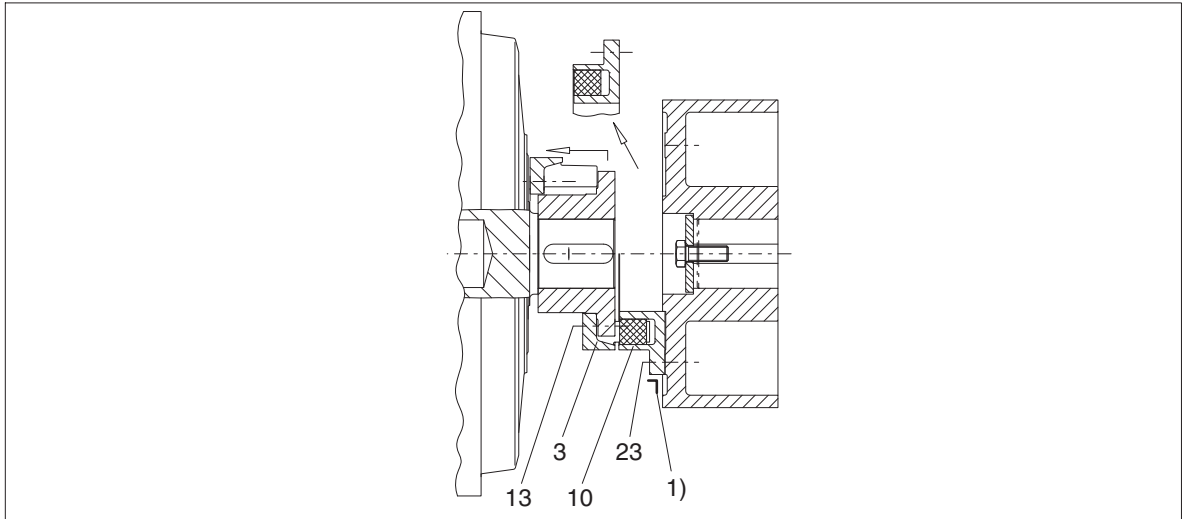

Fig. 14: Removing the FLUDEX coupling -a
- Undo the screwed connection (23).
- Remove part 10 radially (see figure 14).